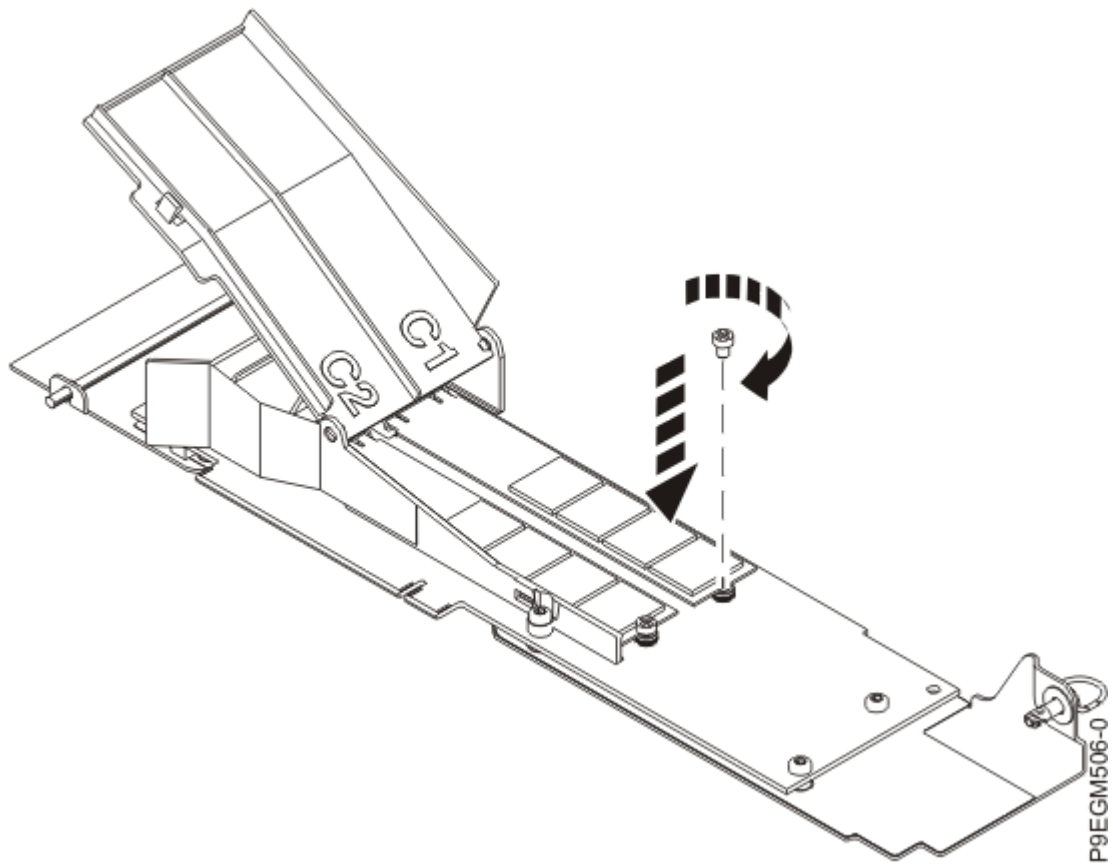

Figure 35. Securing the NVMe M.2 flash module onto the carrier card
3. Using a Phillips screwdriver, secure the flash module onto the NVMe M.2 carrier card. See Figure 35 on page 41.